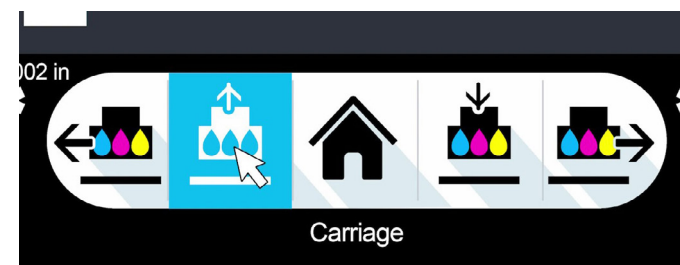

Figure 3-16 Move Carriage Up
1. From the printer software, click the carriage up arrow to raise the print carriage and allow access to the print head plate (Figure 3-16).